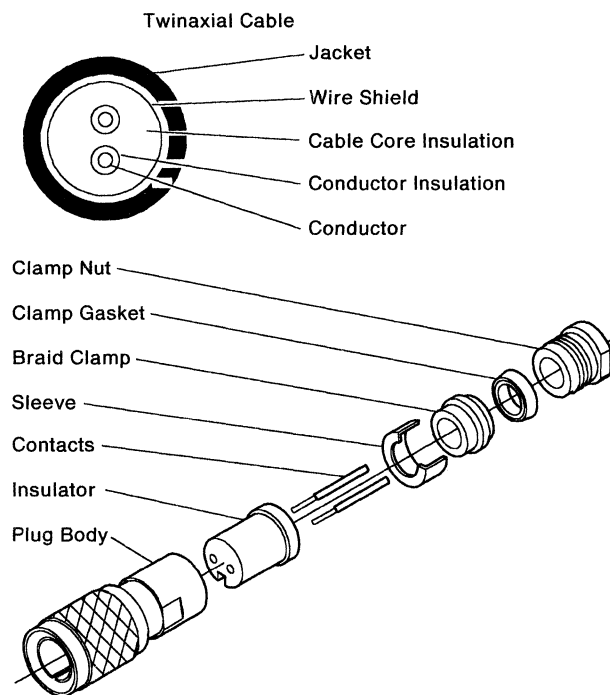

Figure 12. Cable Layers
1. Make sure that the connector kit has all of the required parts. See Figure 12 for location of the cable layers.